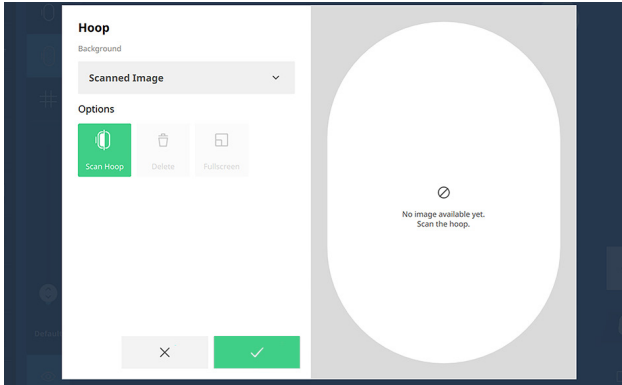

Fig. 26
5. Select Scanned Image from the dropdown, then Scan Hoop (Fig. 26).